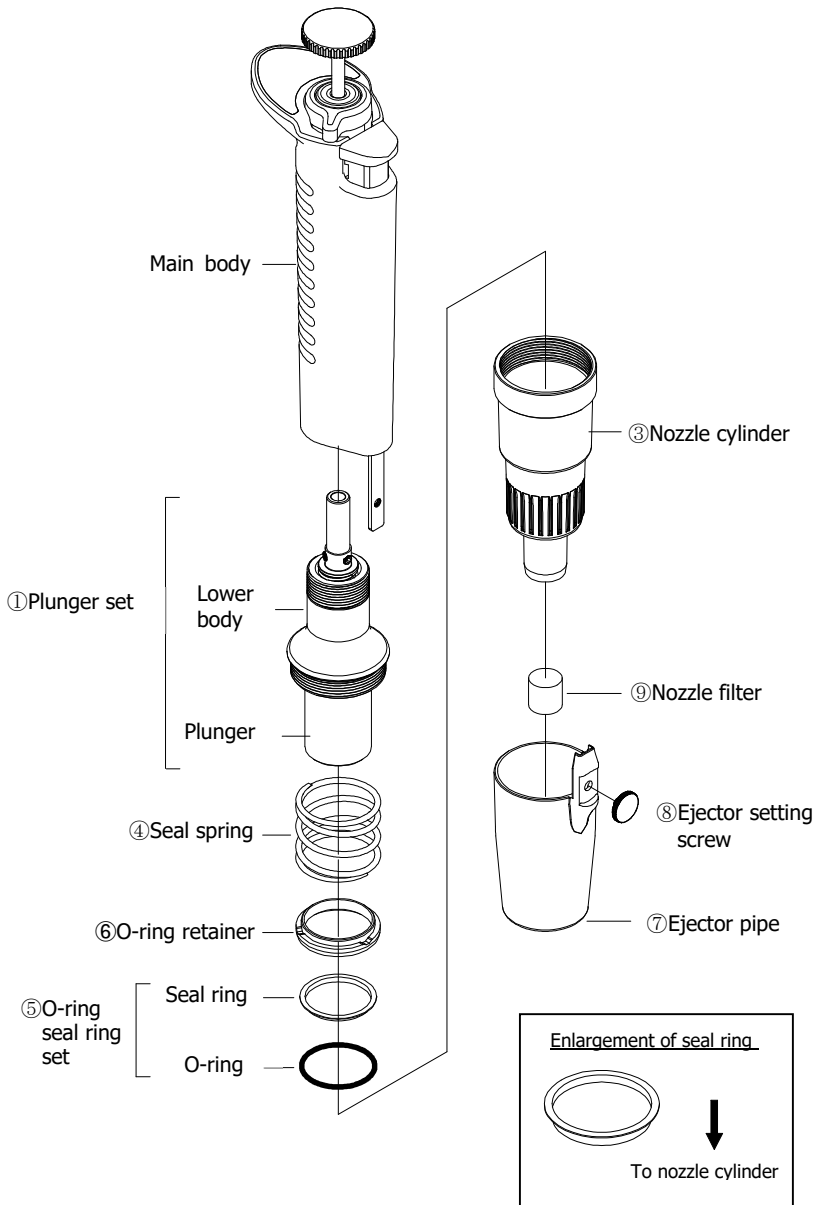

Fig. G4
- For Models: 5000 $\mu$ L: (Fig. G4) and 10000 $\mu$ L (Fig. G5), remove the seal spring, O-ring retainer, O-ring and seal ring in the nozzle cylinder.
- For Models: 5000 $\mu$ L (Fig. G4) and 10000 $\mu$ L (Fig. G5)
Circled Numbers in (Fig. G4) corresponds to Parts Numbers in the replacement parts list.